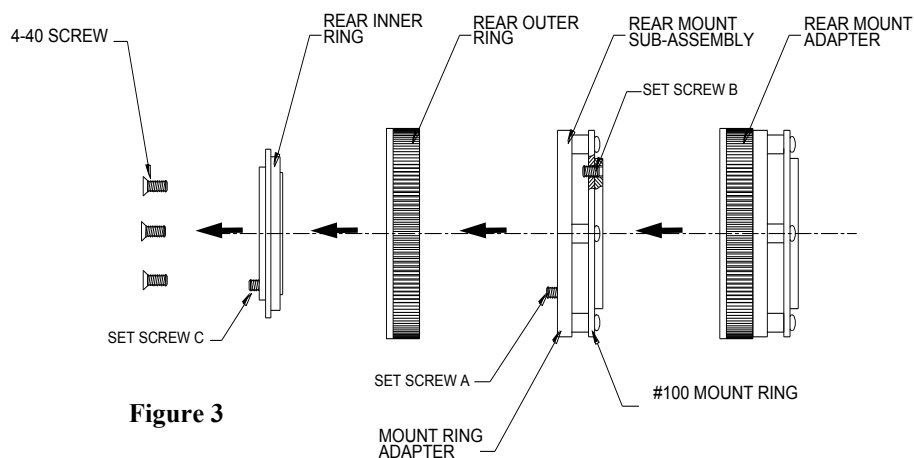

Figure 3
Unscrew (3) 4-40 screws of rear mount adapter, remove inner ring and outer ring (see Figure 3).